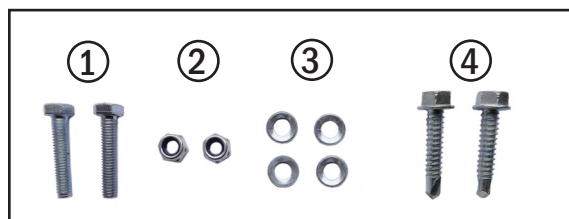

Fig. 21: Components for mounting the TECU
- 2 x Hexagon head screw M6x35 DIN 933 8.8 galvanized (300384) (see Fig. 21 – 1)
- 2 x Self-locking nut M6 DIN985-8 galvanized (300142) (see Fig. 21 – 2)
- 4 x Washer M6 DIN 125 galvanized steel (300110) (see Fig. 21 – 3)
- 2xSelf drilling screw with hexagon head DIN 7504-K galvanized 63x32 (300138) (see Fig. 21 – 4)